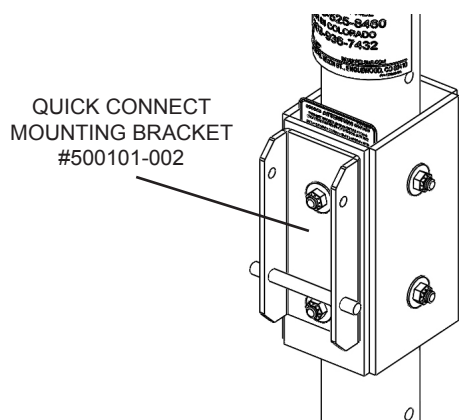

Figure 5a: Davit System Mounting Bracket
- i) Be sure the quick connect mounting bracket is securely fastened to the structure. Refer to appropriate Structure Manual for bracket mounting details. See Figure 5a.